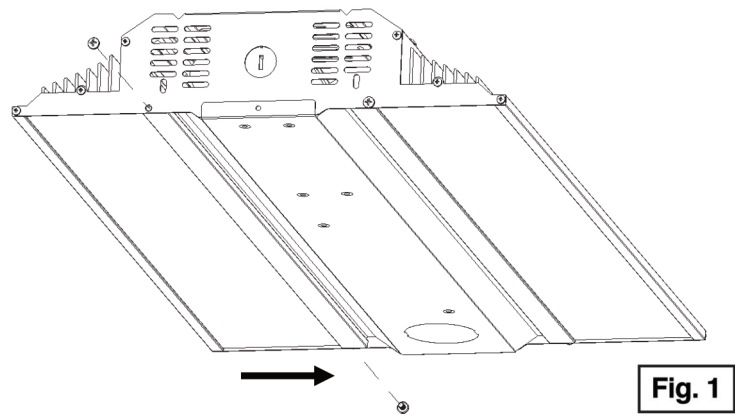

Fig. 1
Remove the two (2) bottom screws closer to the center of the fixture. Slide the lens to the right towards the center of the fixture, freeing the left side of the lens, as shown in **Fig. 1**.